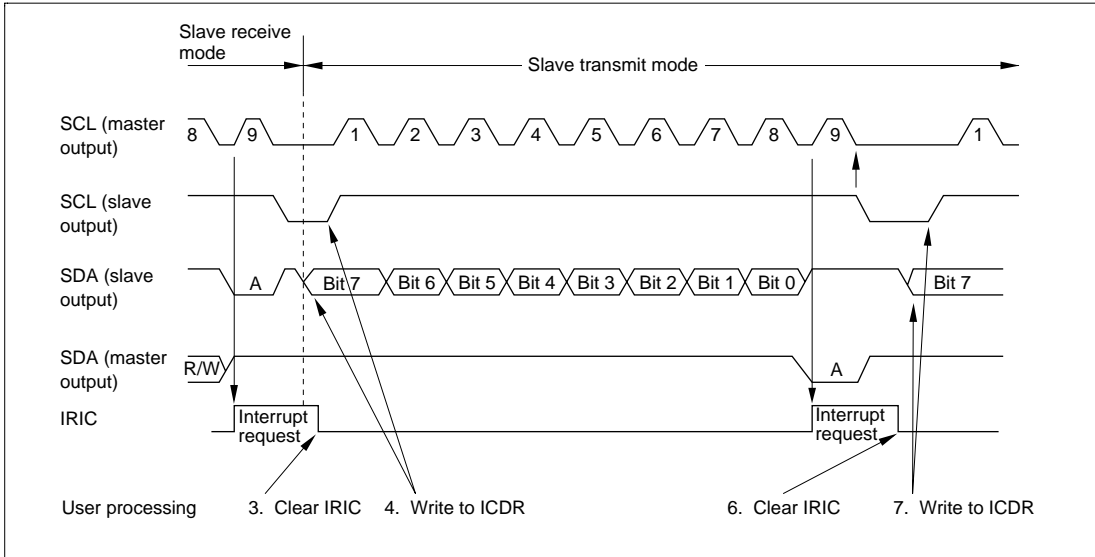

Figure 13.8 Operation Timing in Slave Transmit Mode
4. Write data in ICDR. The slave device outputs the written data serially in step with the clock output by the master device, with the timing shown in figure 13.8.